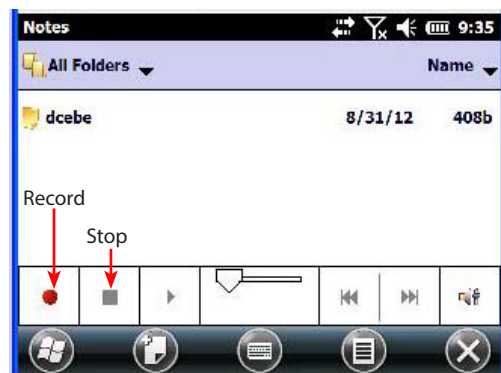

Figure 147: Record
3. Tap the round Record symbol on the screen. See Figure 147.